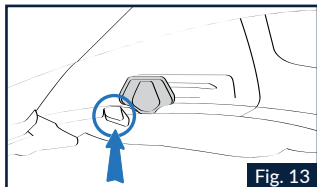

Fig. 13
1.2 To deactivate the VPS, press the recovery button as shown in Fig.13 until the VPS unlocks and moves automatically in standby position.